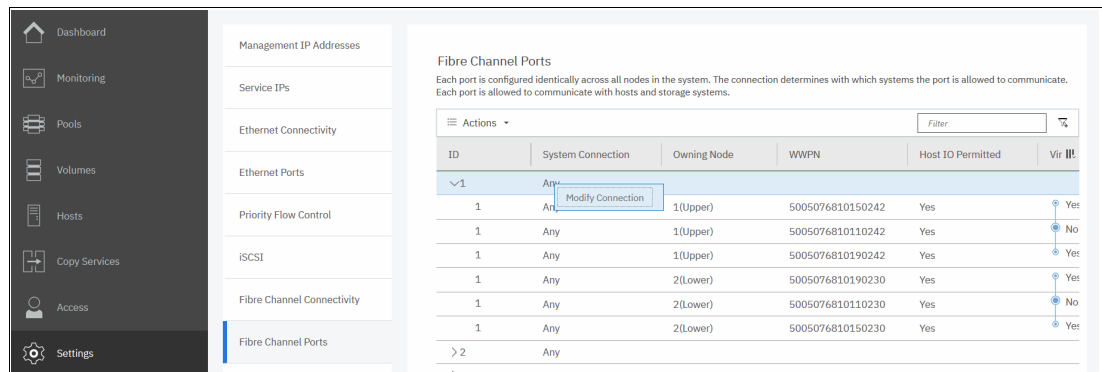

Figure 3-42 Applying a port mask by using a GUI
2. Right-click a system port ID that you want to change and select **Modify Connection**, as shown in Figure 3-42.